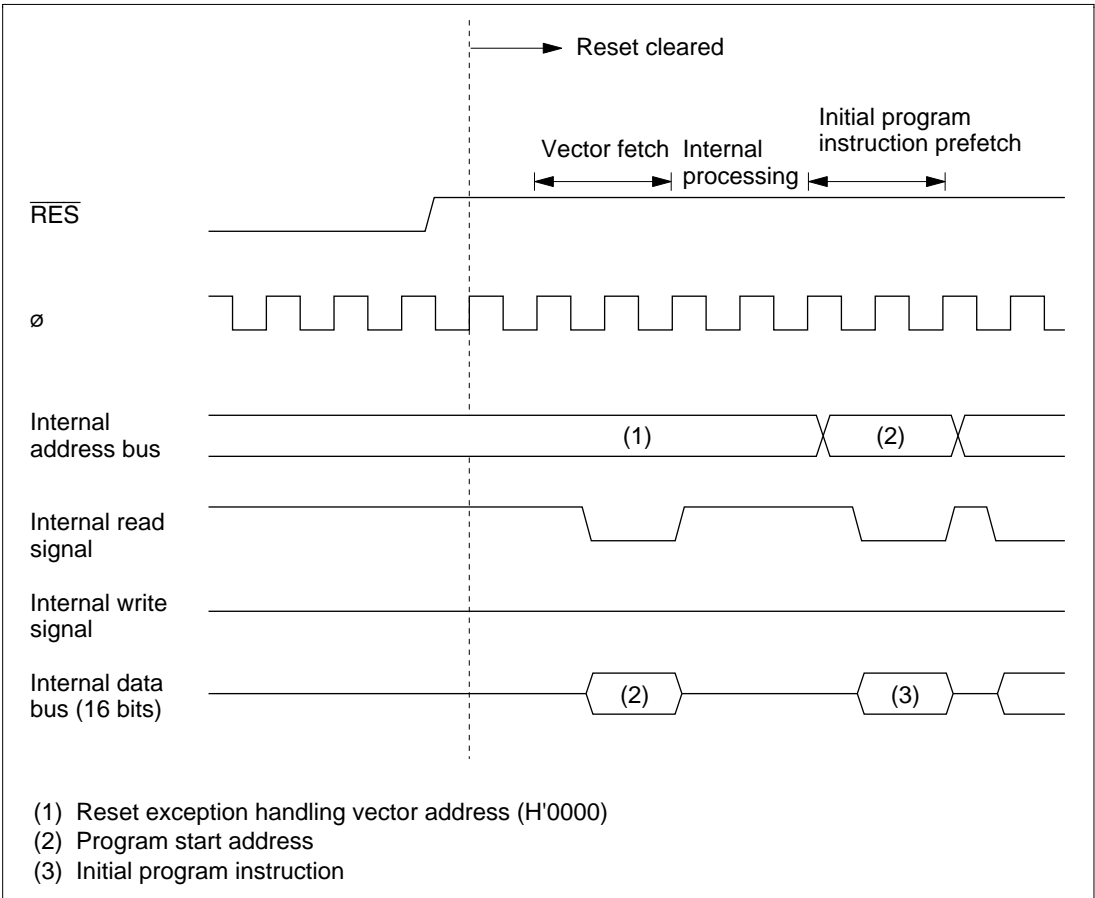

Figure 3.1 Reset Sequence
2. The CPU generates the reset exception handling vector address (H'0000 to H'0001), and transfers the address to PC as a start address. Then a program starts executing from the address indicated in PC. Figure 3.1 shows the reset sequence.